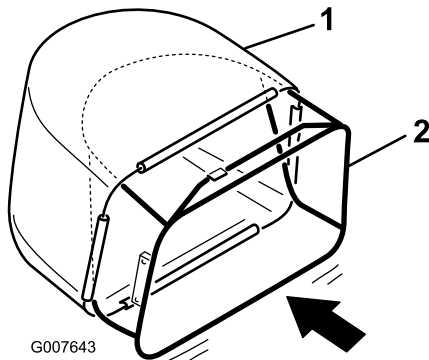

Figure 5
1. Slide the bag onto the frame and secure it with the clips (Figure 5).